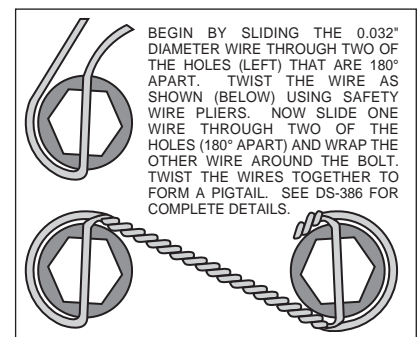

Figure 6. Safety Wire Diagram
- With the slot pointing upward and the mounting ears pointing towards the rear of the vehicle, install the caliper mounting bracket (1) to the axle housing flange using the stock Original Equipment Manufacturer (OEM) bolts and nuts. Stock OEM hex nuts that retain the bracket (1) should be on the wheel side of the bracket. Apply red *Loctite*® 271 to the stock OEM bolt threads and torque to OEM specifications. **NOTE:** Some brackets act as the bearing retainer, while others help locate the bearing in the axle housing flange. Make sure the heads of the caliper mounting bracket insert nuts are FACING OUTWARD TOWARDS THE WHEEL.
- The rotor (3) has two sides. A flat side and an inset side. Bolt hat (2) to flat side of rotor (3) using bolts (5). Using an alternating sequence, apply red *Loctite*® 271 to the threads and torque bolts to 25 ft-lb. For an added measure of security, the bolts may be safety wired using standard 0.032 inch diameter stainless steel safety wire as shown in Figure 6. Please refer to Wilwood's data sheet DS-386 (available at [www.wilwood.com/Pdf/DataSheets/ds386.pdf](http://www.wilwood.com/Pdf/DataSheets/ds386.pdf)) for complete safety wire installation instructions.
- Align the correct hole pattern in the hat (2) with the stud pattern on the axle flange. **NOTE:** Some OEM and after market axles come with stud sizes larger than 0.50" diameter. Verify stud size and have a qualified machine shop drill the hats to the correct size. Slide the hat/rotor assembly (2 and 3) over the wheel studs and against the axle flange face.
- NOTE:** Please reference the caution statement at the beginning of the assembly instructions. Mount the caliper (6) over the rotor (3) and onto the caliper mounting bracket (1) using the washers (7) and mounting bolts (8). View the rotor through the top opening of the caliper. The rotor should be aligned in the center of the caliper. If not, adjust the caliper by using 0.032 inch shims (9) by placing them between the caliper mounting bracket (1) and the caliper (6). Add as many shim washers (9) as necessary to achieve the correct alignment. **NOTE:** The end of the bolt must be flush with or slightly protruding from the head of the clinch nut. See Figure 6. Place spare shims (9) between washer and caliper mounting ear to achieve the proper mounting fastener configuration. Always use the same amount of shims on both the top and bottom caliper mounting bolts (8). Apply red *Loctite*® 271 to the mounting bolt threads (8), torque to 30 ft-lb. Caliper mount bolts may be safety wired for additional security.
- Position the Wilwood disc brake pads (10) into the caliper (6) and fasten with cotter pin (4). Steel backing plate side of brake pad should face the caliper pistons.